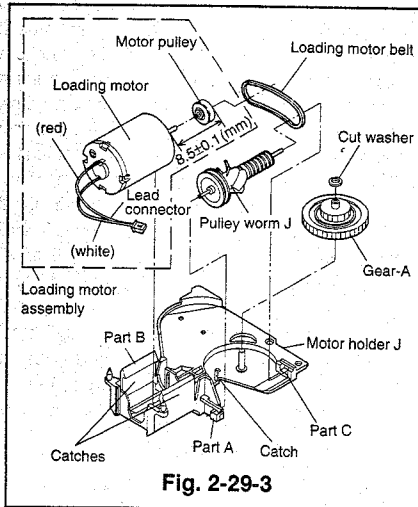
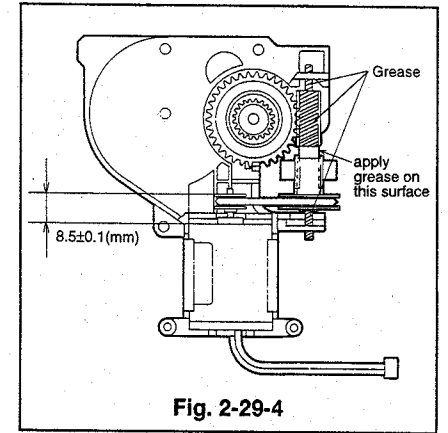

Fig. 2-29-3
Fig. 2-29-4
- 3 Remove the loading motor belt from the motor pulley. (Refer to Fig. 2-29-3.)
- 4 Unfasten the catches holding the motor holder to remove the loading motor assembly. (Refer to Fig. 2-29-3.)
- 5 Remove the pulley worm J, first the end attached to the part A shown in Fig. 2-29-3 and then the other end.
- 2 Install the motor pulley on the loading motor so that the space between the loading motor and the outer edge of the motor pulley is 8.5 ± 0.1 mm. (Refer to Fig. 2-29-4)
- 3 Install the loading motor assembly so that the label on it faces part B, shown in Fig. 2-29-3.
- 4 Apply grease (G)[859D055O50] to the areas shown in Fig. 2-29-4 of the new pulley worm J. Install the pulley worm J, first the end attached to the part C shown in Fig. 2-29-3 and then the other end.
- 6 Lift the end attached to the part A shown in Fig. 2-29-3 of the pulley worm J. Fasten the loading motor belt on the pulley worm J and the motor pulley, taking care not to twist the belt.